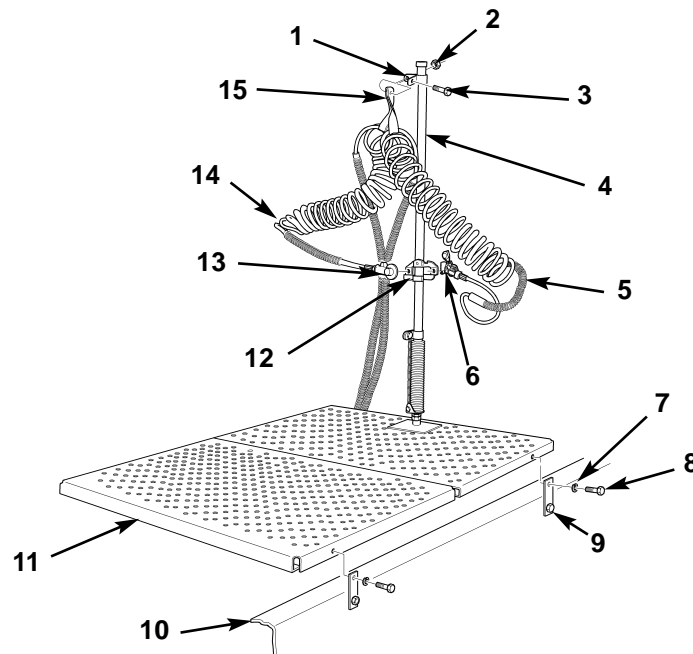

Figure 89. Installing Service Deck and Connecting Air Hoses.
12. Position service deck assembly (figure 89, item 11) on tractor frame (figure 89, item 10) and install four washers (figure 89, item 7) and bolts (figure 89, item 8) on four tabs (figure 89, item 9) and service deck assembly (figure 89, item 11).
13. Loop strap (figure 89, item 15) around emergency air pressure hose (figure 89, item 14) and service air pressure hose (figure 89, item 5). Install strap (figure 89, item 15) on air hose tender (figure 89, item 4) with clamp (figure 89, item 1), screw (figure 89, item 3), and nut (figure 89, item 2).
14. Connect emergency air pressure coupling (figure 89, item 13) and service air pressure coupling (figure 89, item 6) to storage brackets (figure 89, item 12) on air hose tender (figure 89, item 4).